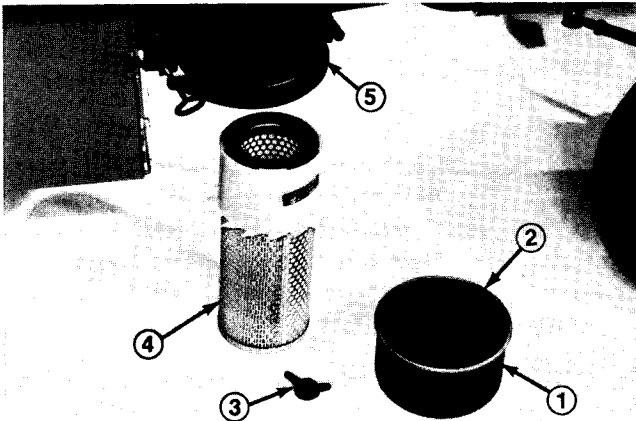

Figure 6
2. Remove the wing nut with gasket. Pull the filter element out of the air cleaner body (Fig. 6).